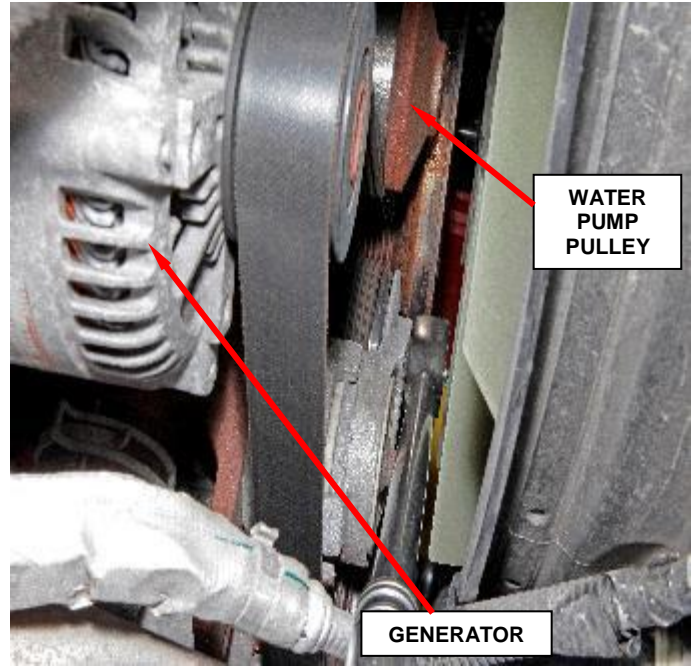

Figure 1 - Water Pump Location
2. Inspect the water pump for manufacturer. **Is the water pump produced by OMP?** (Figure 1 and 2)